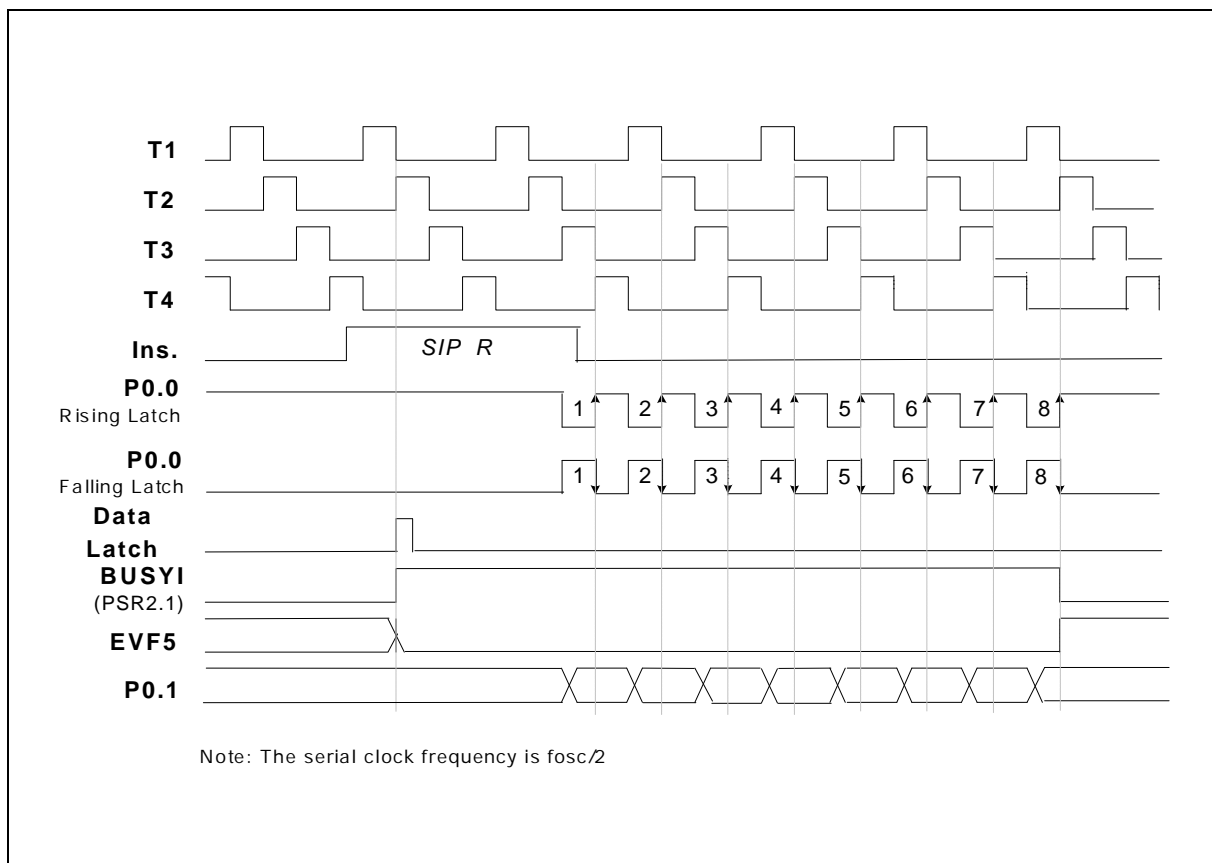

Figure 5-12. Timing of the Serial Input Function (SIP R)
- (1) **When in the first time the SIP R instruction is executed, the data will be loaded to the ACC and RAM from the serial input buffer. But this data is not meaningful, it is used to enable serial port.** There are two methods to get the serial data, one is interrupt and the other is polling. When enable the serial input, the bit 1 of port status register 2 (PSR2) will automatically be set to "1" ($BUSYI = 1$). Then the P0.0 pin will send out 8 clocks or accept 8 clocks from external device and the data from the P0.1 pin will be loaded to SIB buffer at the rising or falling edge of the P0.0 pin. After the 8 clocks have been sent, $BUSYI$ will be reset to "0" and $EVF.5$ will be set to "1." At this time, if $IEF.5$ has been set ($IEF.5 = 1$), an interrupt is executed then the SIP R instruction can get the correct data from the serial input buffer (SIB), **low nibble of SIB moves to ACC register and the high nibble moves to RAM**; if $HEF.5$ has been set ($HEF.5 = 1$), the hold state is terminated. The polling method is to check the status of PSR2.1 ($BUSYI$) to know whether the serial input process is completed or not. If a serial input process is not completed, but the SIP R instruction is executed again, the data will be lost. The timing is shown in Figure 5-12.